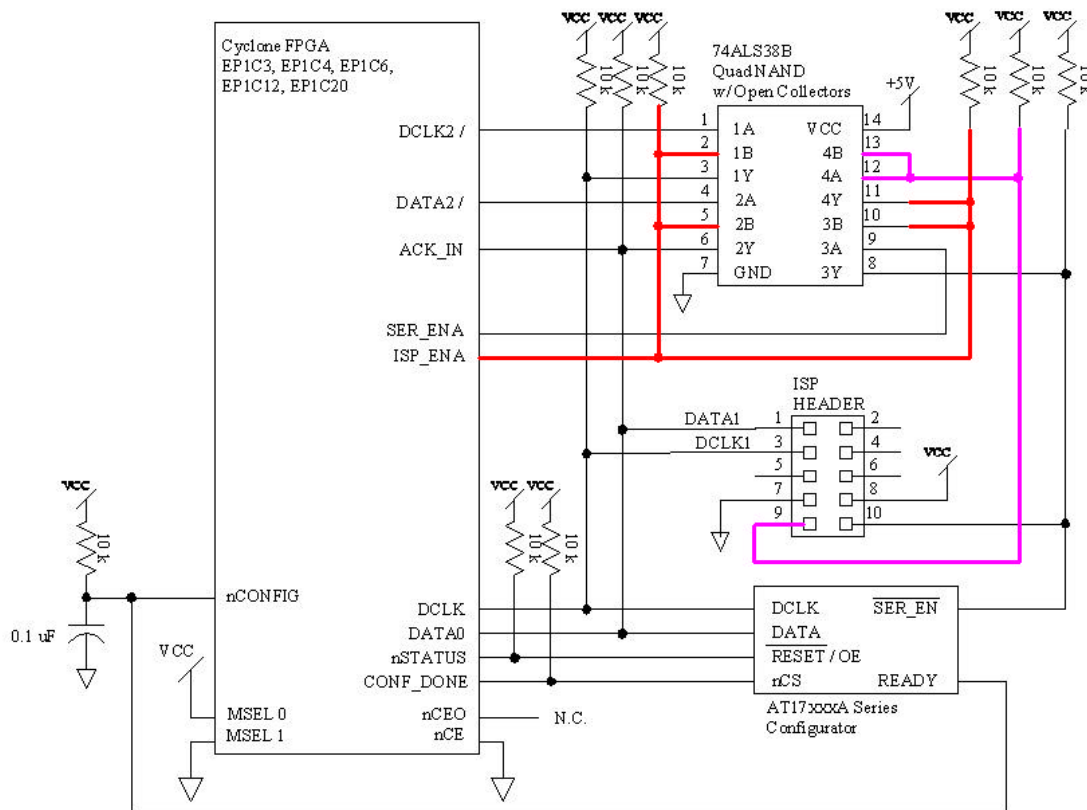

Figure II.1 The proposed hook up of the FPGA and configurator for in system programming.
Figure II.1 is the schematic of the connections between the FPGA and the configuration memory. The FPGA's are programmed in what Altera calls the Passive Serial (PS) mode. In this mode the FPGA never drives the DCLK or DATA0 lines. The AT17LV configurator drives these lines during FPGA configuration. During configurator programming the SER_EN / line is pulled low. When the AT17LV is in this mode it
The second method for programming the configurator is over the VME bus, through control logic that will be programmed into the FPGA. The FPGA will drive the DATA and DCLK lines and pull down the SER_EN / pin of the AT17LV. There are a couple of concerns that are addressed in the circuit shown in Figure II.1. First, we want to avoid any situation where the FPGA and the ADTH2225 programming cable are driving the same signals at the same time. Second we must guarantee that if the control lines from the FPGA are ever mis-configured it will not interfere with our ability to program the configurator using the programming cable.